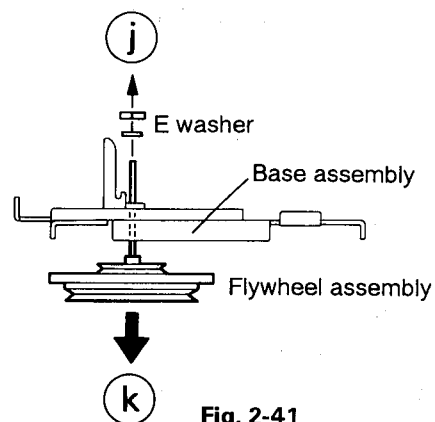

Fig. 2-41
■ Flywheel assembly (Fig. 2-41)